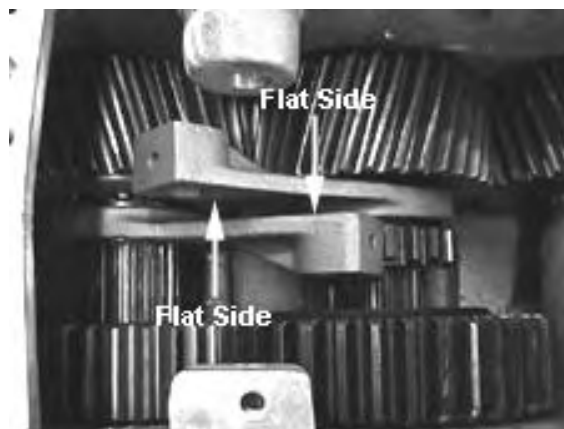

Fig. 86
45. Place the range shift forks into the housing with the flat sides facing each other. *See Fig. 86.*